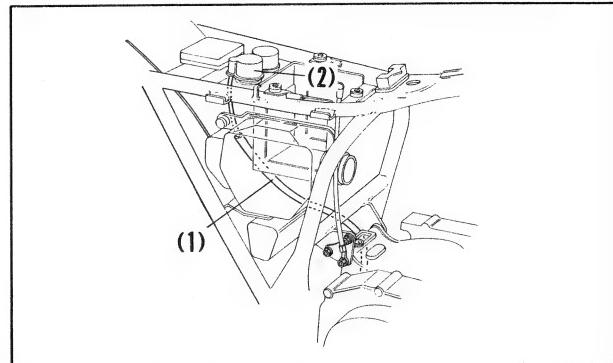

Fig. 4-4 (1) Starting motor cable
(2) Foot rest
- Route the starting motor cable as shown in Fig. 4-4 and connect it to the starter magnetic switch.